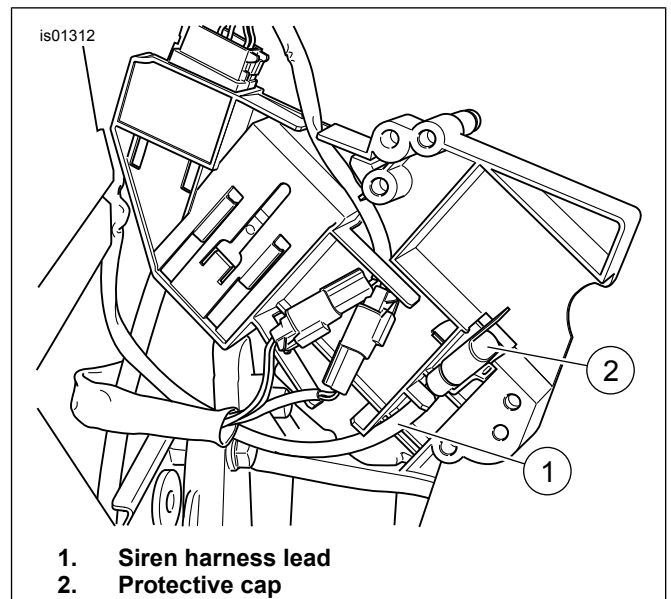

Figure 14. Siren Wire Harness (2002-2007 Touring)
5. See Figure 14. Remove siren harness lead (1) from back of electrical bracket, and take protective cap (2) off of security siren connector [142B].